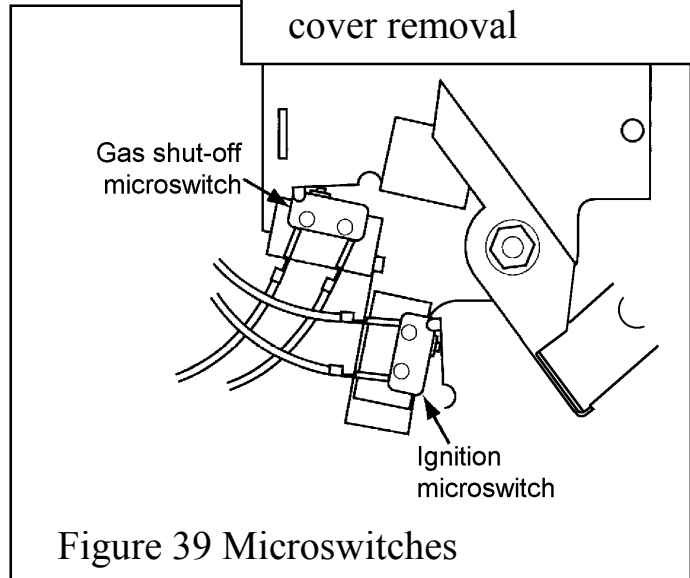

Figure 39 Microswitches
- Disconnect the leads from the ignition microswitch (The lower of the two microswitches - See figure 39).
- Detach the microswitch assembly by removing two screws. See figure 39.